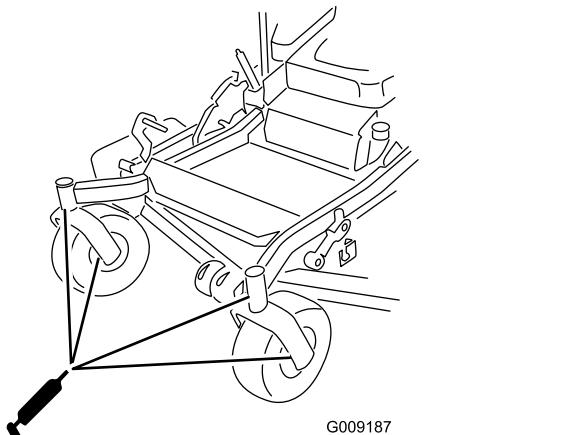

Figure 44
- Grease the caster-wheel bearings (Figure 44).